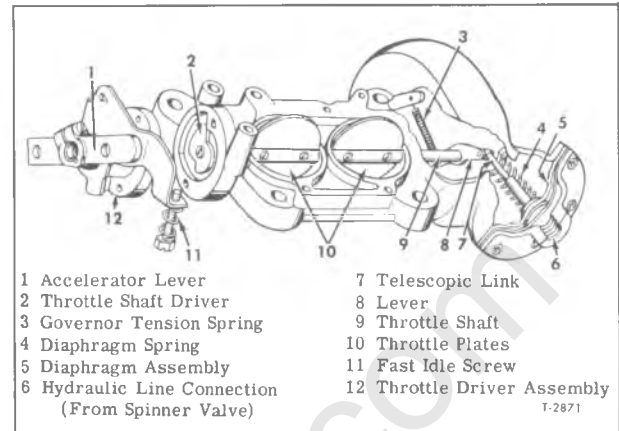

Figure 16—Governor and Throttle Operation (Typical)
NOTE: Key numbers in text refer to figure 16.
The hydraulic control mechanism is incorporated into the engine oil pump in engine crankcase. The spinner valve is coupled to the engine oil pump drive shaft and turns at same speed as the oil pump (1/2 engine crankshaft speed). At one end of the valve is a weight and at other end is a spring. The spring holds the valve assembly in closed position until such time as centrifugal force acting on valve weight begins to move the valve toward the open position. Governor valve calibration is present to provide governor action at proper speed. Engine speed control is achieved by permitting pressure from oil pump to be applied at diaphragm (5) in slave unit (fig. 16).